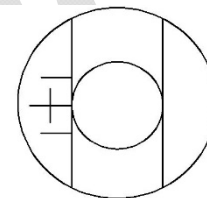

Fig.12
- 5.3.5 Rotate the right drum wheel to enable the inner side of right graduated line tangent to the right tip of the diagonal line of the indentation (see Fig.12).